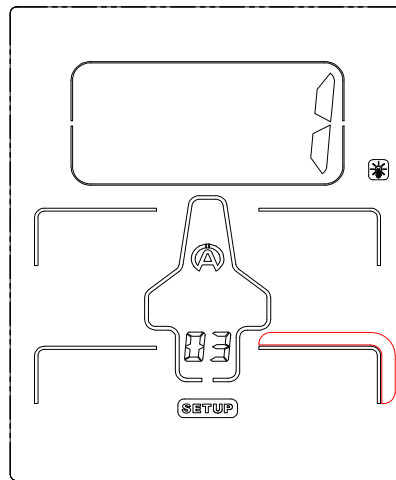

Figure 14
- 4) Press the central button **Ok** to confirm your choice (*figure 14*).